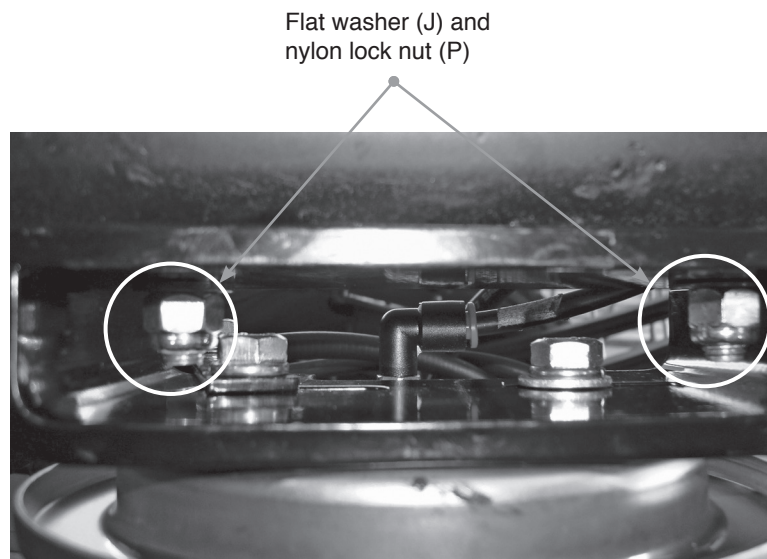

*fig. 7*
*The upper brace also fits under the top flange of the frame (Fig. 7).*